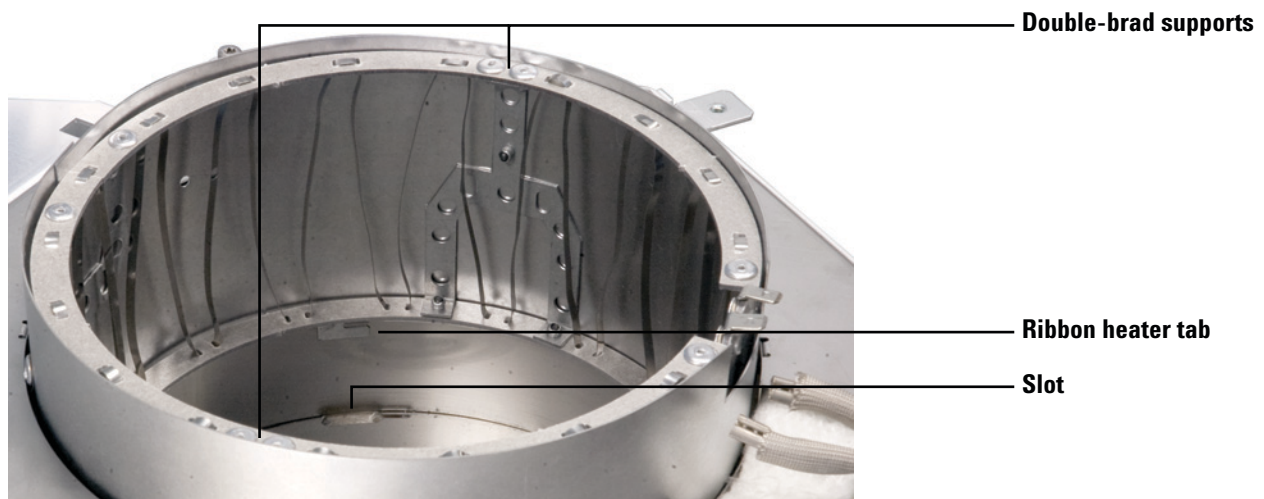

Figure 22 Removing the oven ribbon heater
- b** Using both hands, hold the oven ribbon heater on the double-brad supports as shown in Figure 22.